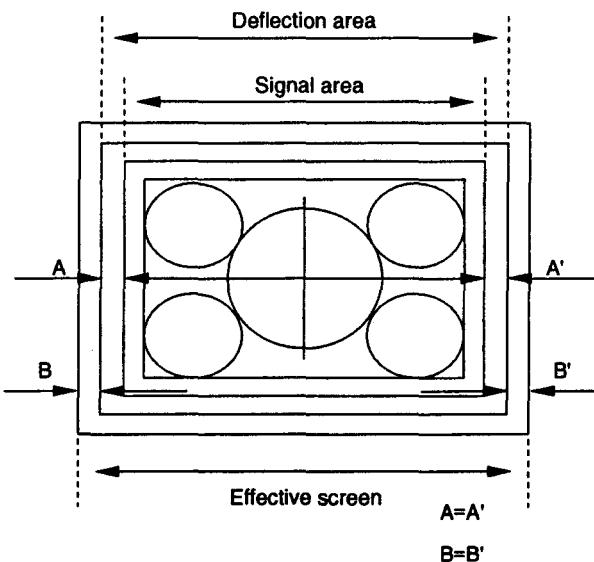

Fig.5-4
7. Adjust [60 VIDEO PHASE] so that the signal area will be in the center (A = A') of the deflection area. (Fig.5-4)